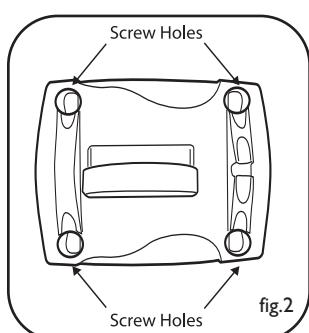

fig.2
2. Using the Wall/Mast bracket as a guide, mark position for the four 2" wood screws. If possible locate a stud to screw into. If a stud is not available, use appropriate wall anchors (not included, available at any hardware store) (fig. 2).